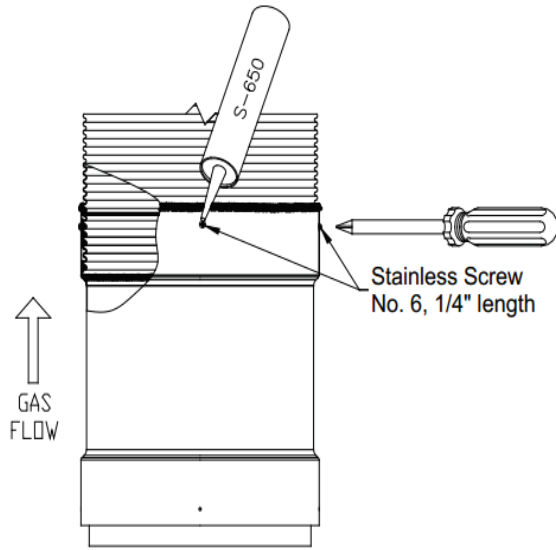

Figure 21 -DuraSeal Flex screws
- 2.5. Add the red S-650 caulking over the screws (**Figure 21**).